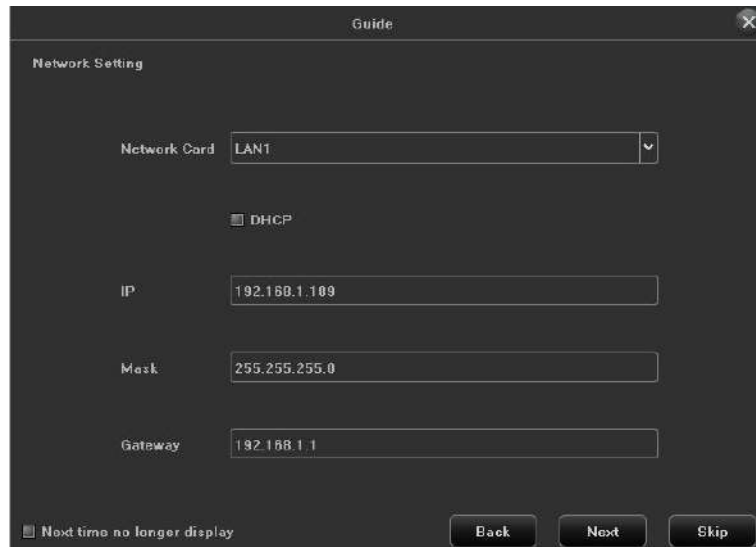

Figure 2.5 Network Setting
- After the display setting, click **Next** button to enter the Network Setting window, as shown in Figure 2.5.